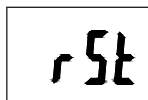

Fig. 7
12. Press the **SETUP** button a seventh time (see Fig. 7). This is the time/date reset function. Press the **HOLD** button to save. The time and date will then return to the original factory time and date setup.